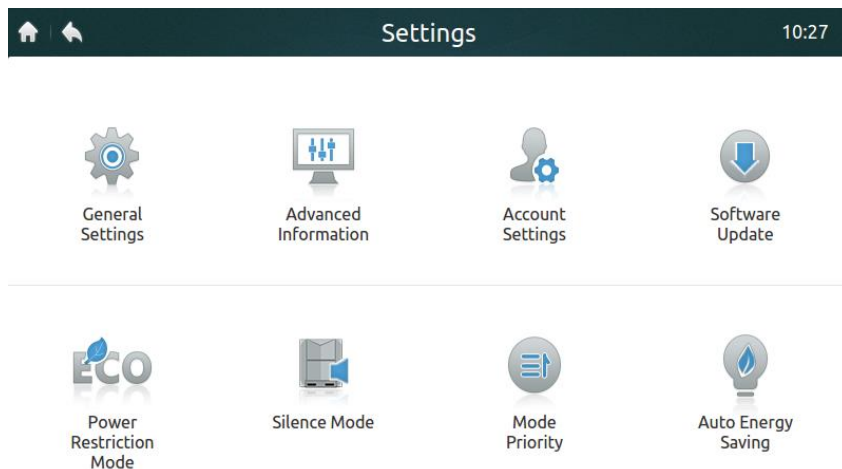
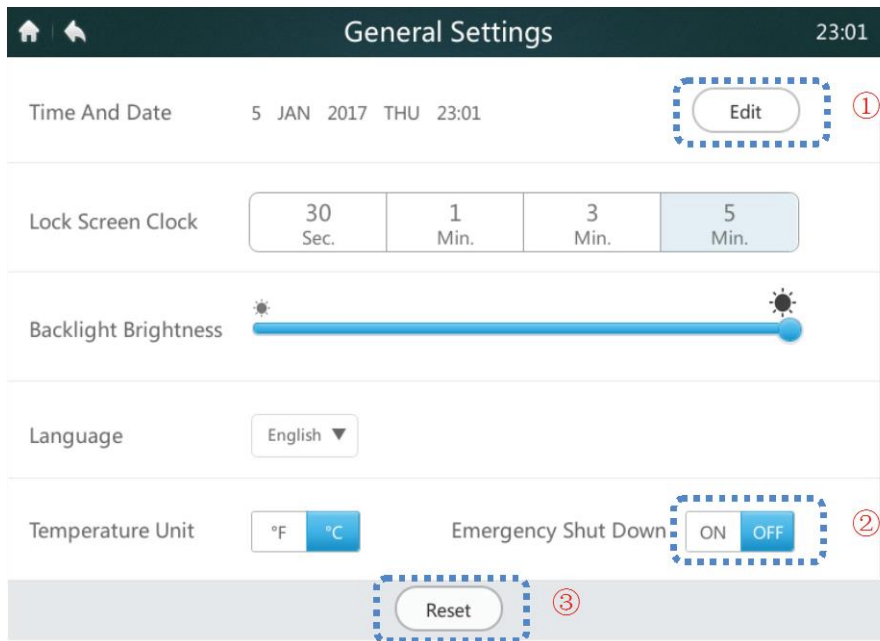
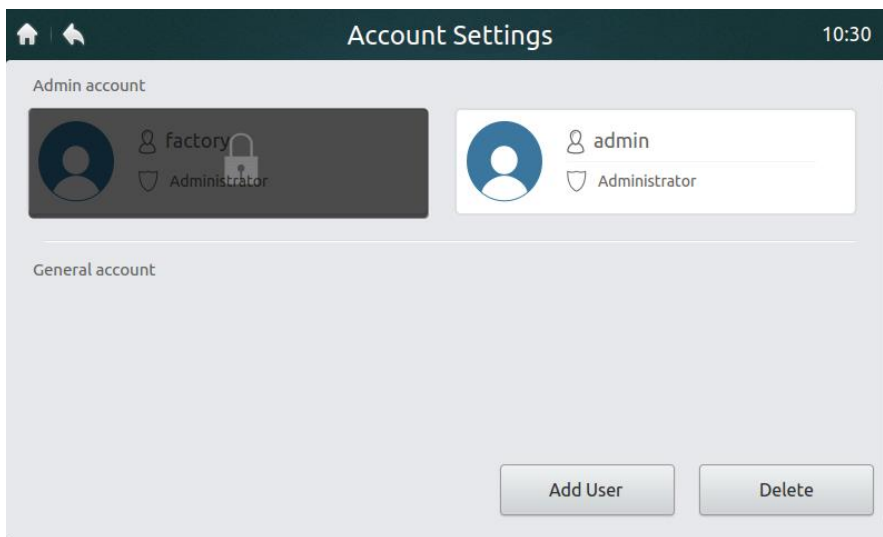

Figure 41 Homepage of Settings page
Figure 42 Homepage of General Settings
Figure 47 Homepage of Account Settings page
1. Tap "General Settings" in Figure 41 to enter the interface, as shown in Figure 42.
2. Tap the "Edit" button marked "1" in Figure 42 to access the interface below.
If an emergency occurs, tap the button marked "2" in Figure 42 to enable emergency shutdown. The centralized controller will send a shutdown command to all the IDUs and lock the remote controller. The IDUs can be restored only after the emergency switch is disabled.
Only the installation technician or administrator can enable the reset function. Tap the "Reset" button marked "3" in Figure 42 to delete user information (including the schedules, groups, common user accounts and reports), and restore the default settings (including the date, screen locking time, backlight, language, temperature and daylight saving time). The prompt will be displayed by tapping the "Reset" button. To confirm the operation, tap the "Yes" button to continue and restart the centralized controller. Tap the "No" button to cancel the reset.
2. Tap "Advanced Information", as shown in Figure 41, to enter the interface below. You can select to view the ODU or IDU parameters. For details, see Tables 12 and 13.
2. Tap "Account Settings", as shown in Figure 41, to enter the interface, as shown in Figure 47.
3. Tap the "Add User" button in the lower right corner of Figure 47 to display the interface below. Enter the user name and password (enter the password twice), and then tap the "Add" button to save the setting. Tap the "Cancel" button to cancel the setting.
- Tap the "Delete" button in the lower right corner, as shown in Figure 47, to display the icon in the top right corner of common user account, as shown below. Tap the icon in the top right corner of the user to be deleted.